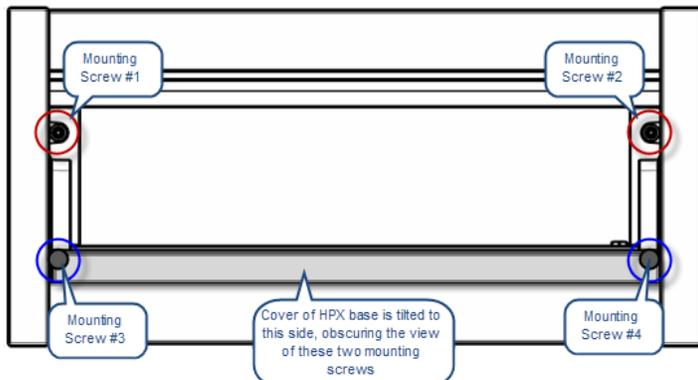

FIG. 2 HYDRAPORT BASE ASSEMBLY (SHOWN MOUNTED) - MOUNTING SCREWS LOCATIONS
*Note that when the cover of the HydraPort base is open, only two of these screws are visible. To access the other two mounting screws, tip the cover over to the opposite open position (see FIG. 2).*